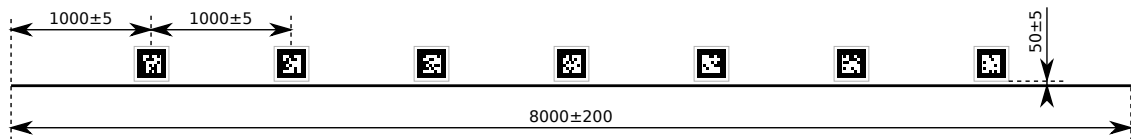

Figure 4: Seven 250mm wide markers are spaced evenly along each 8m arena wall. The markers are placed 50mm above the floor. All dimensions are in millimetres.
- 3.3.4 Each wall of the arena features seven $250mm$ libkoki markers. Figure 4 shows the positioning of these markers, whilst figure 5 shows the numbering of these markers.